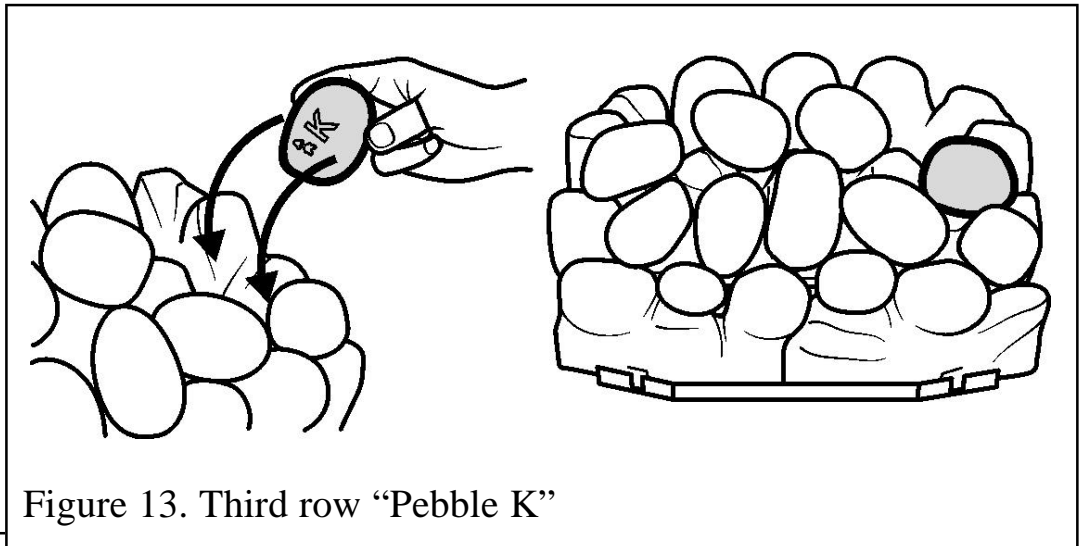

Figure 13. Third row "Pebble K"
15. Hold pebble 'K' upright with the arrow pointing to the top. Locate pebble 'K' as shown in figure 13.